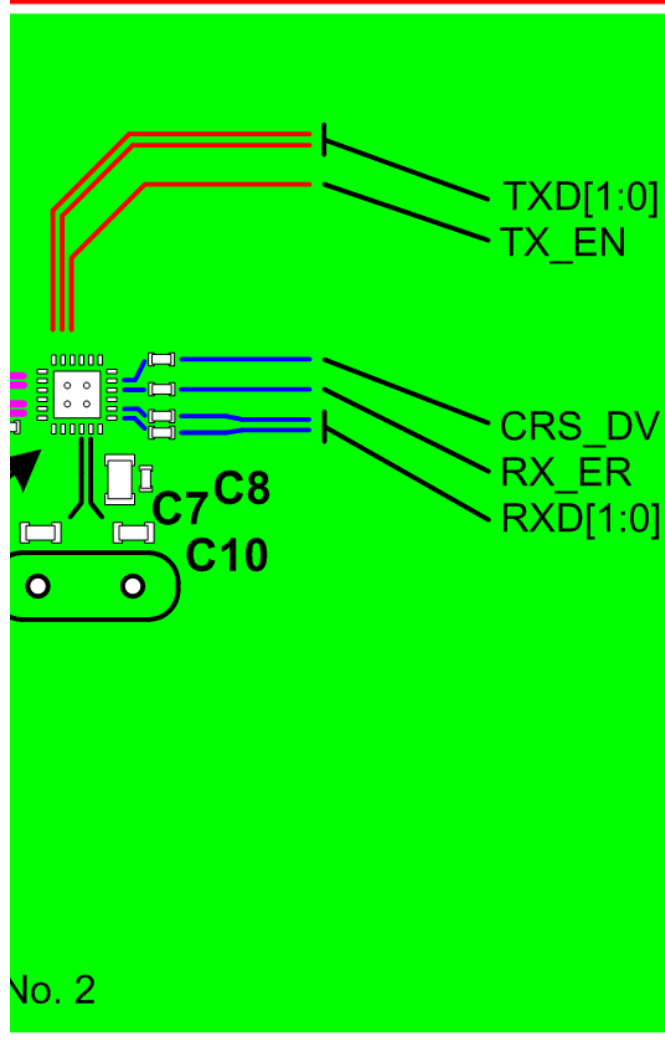

Figure No. 5
5. Refer to Figures No. 5 and No. 6 for details on RMII signal routing.